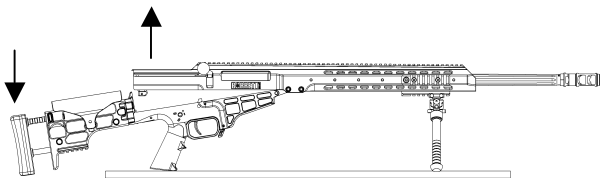

Figure 10, Step B.
4. Separate the receiver and the lower receiver. (*Figure 10, Step B.*)